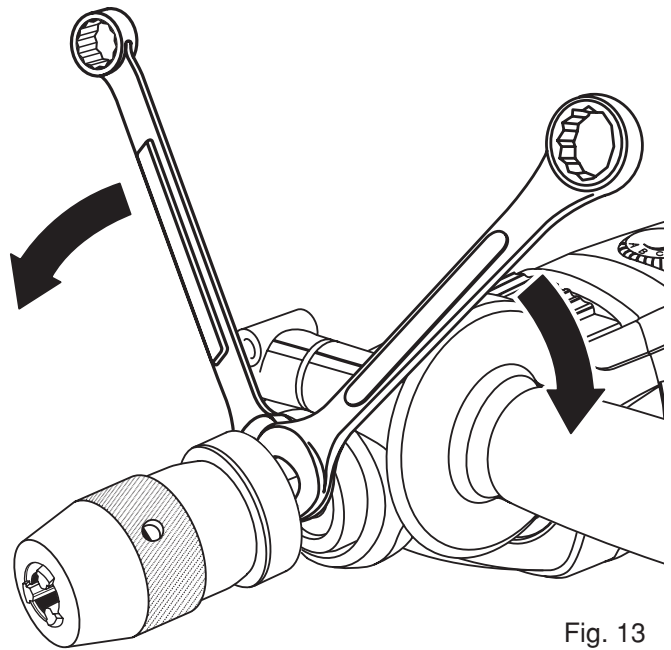

Fig. 13
See Figure 13.
- Using two open-end wrenches, loosen the chuck. See Figure 13.